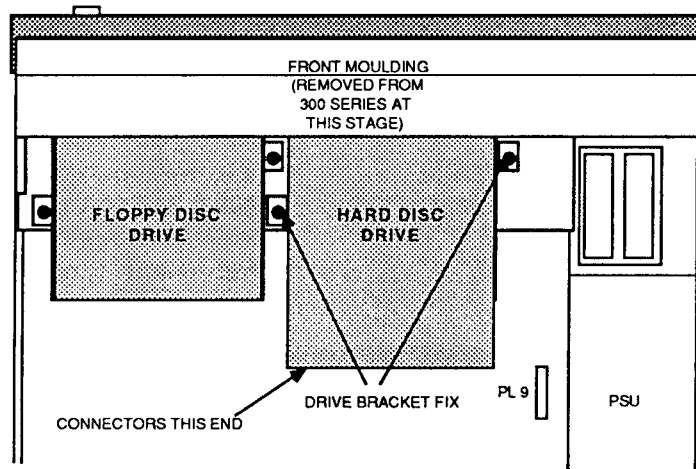

FIG. 4 HARD DISC DRIVE INSTALLATION
5. Stand the unit back on its feet and unplug the LED/speaker connector PL9 from the main board (see fig. 4). Grasp the front moulding assembly at each end and use a straight, steady pull to withdraw it from the front of the unit.
8. Assemble the hard disc drive to the drive bracket (if this is not already done) with 4 off 6-32 UNC x 1/4" screws supplied. Ensure that the drive is orientated such that the PCB is at the bottom, with the connectors facing towards the rear of the main unit (see fig. 4).